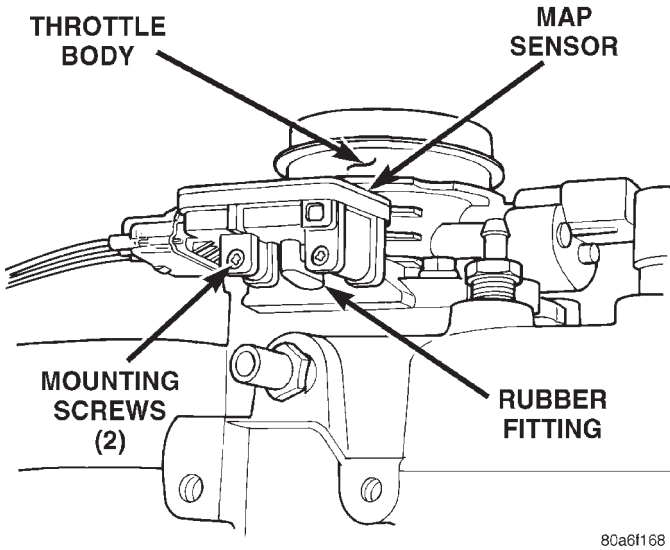

Fig. 33 Rubber L-Shaped Fitting—MAP Sensor-to-Throttle Body
(1) Inspect rubber L-shaped fitting from MAP sensor to throttle body (Fig. 33). Repair as necessary.